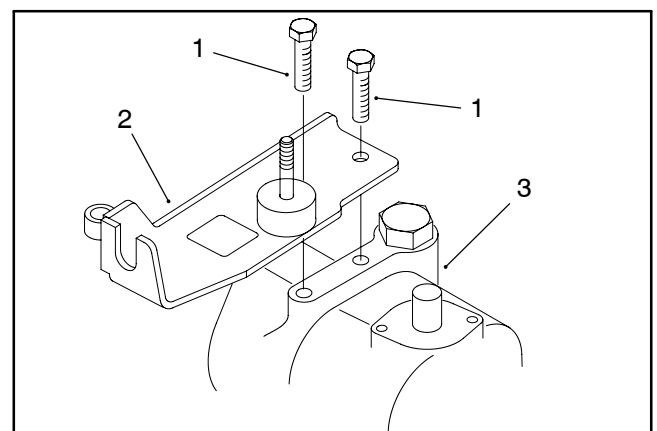
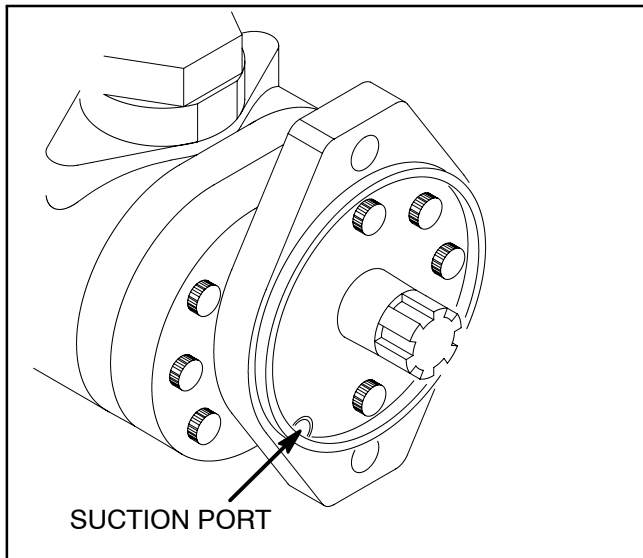

Figure 33
Figure 34
4. Remove both cap screws securing the cable support of the neutral system assembly to the hydrostat. Lift and secure neutral system assembly away from the hydrostat (Fig. 33).
6. Clamp pump inlet hose (24) to prevent draining the hydraulic reservoir.
8. Plug suction port at the end of the gear pump to prevent possible leakage of hydraulic fluid (Fig. 34).
8. Install O-rings (6 and 16) and hose assemblies (25, 26, and 29) to the hydrostat (45) and hydraulic fittings (3 and 17).
9. Remove plug from the suction port on the gear pump (Fig. 34).
11. Remove clamp from pump inlet hose (24).
12. Position neutral system assembly to the hydrostat (45). Secure assembly to the hydrostat by securing the cable support to the hydrostat with both cap screws (Fig. 33).